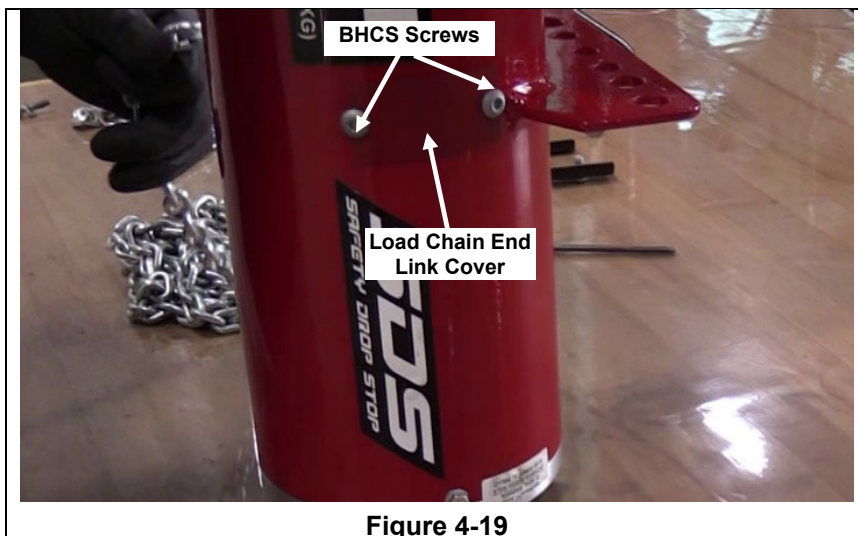

Figure 4-19
Step 10. Turn balancer onto one of the ends and locate the load chain end link access cover on opposite side of chain guide. (See Figure 4-19)